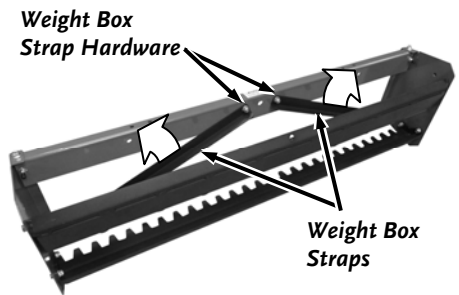

Figure 7
2. Position the Frame Assembly with the front facing up to gain access to the Tooth Bar area (**Figure 7**).